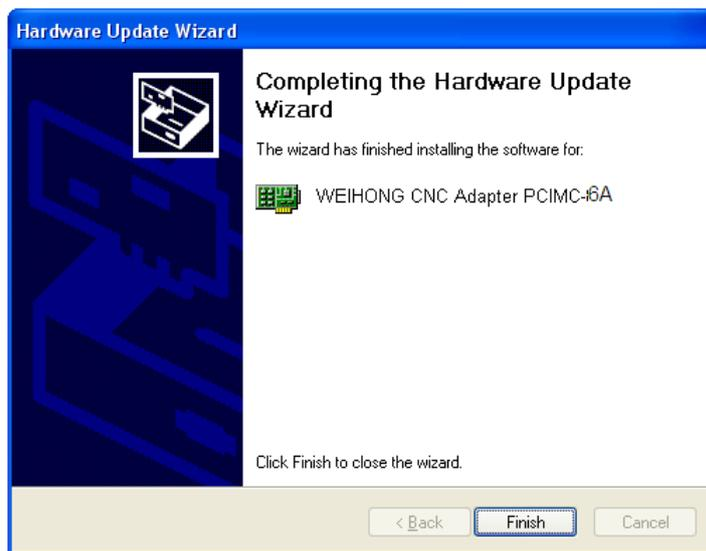

Fig. 3-8 Driver update completed
- 9) When the updating is finished, a dialog as shown in Fig. 3-8 will pop up. Click [Finish] to complete the update of the hardware driver. Double click the icon  on the desktop or click the icon on the menu “Start-All Programs” can launch the software successfully.